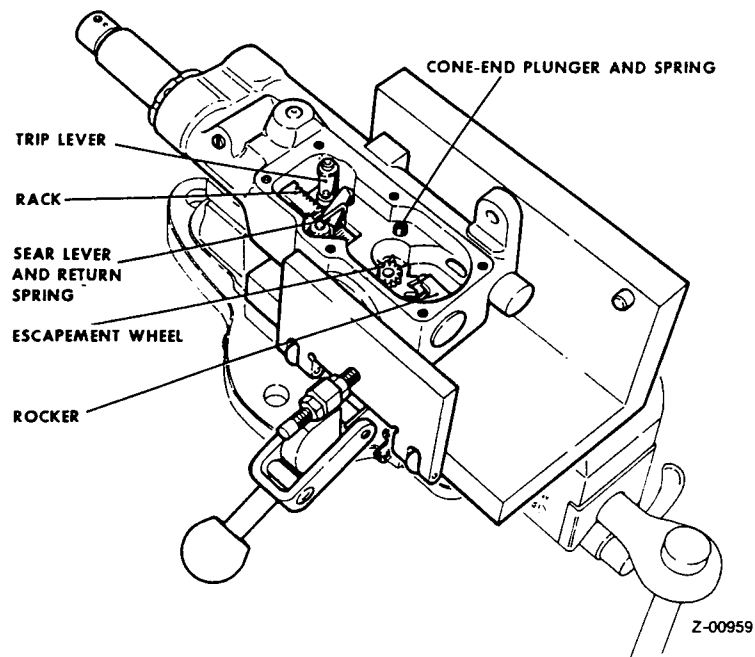
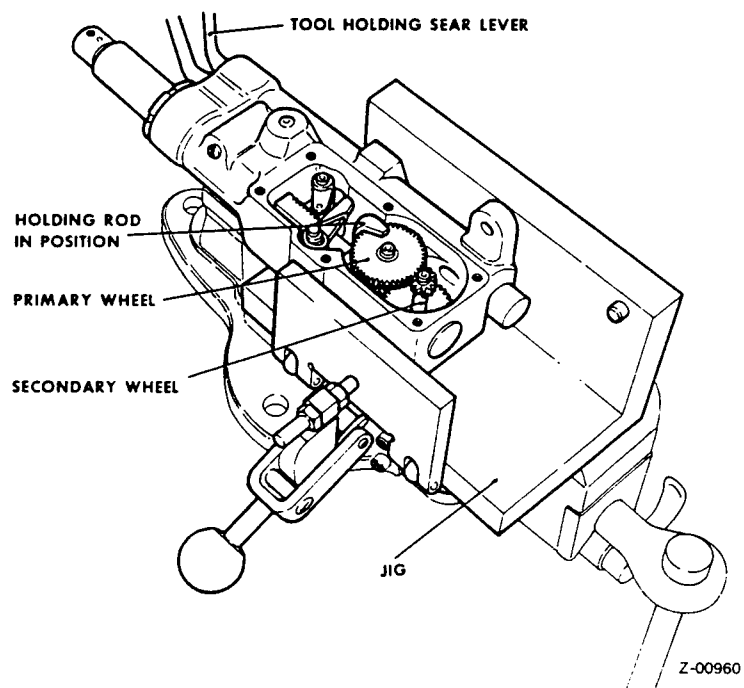

Fig 10 Assembling the unit (1)
Fig 11 Assembling the unit (2)
18.6 Replace shims (if fitted), over threads at lower end of rack and insert rack into plunger. On Type 5 Mk 1 units ensure that the teeth on the rack align with the cutaway in the plunger. Pass end cap over rack plunger, assemble spring washer, remaining shim(s) and special nut to rack. Tighten special nut hand tight only, back off until holes align and fit new split pin. Fit spring over rack and insert complete assembly into case ensuring rack passes through sear lever assembly and rack teeth face inwards towards the harness release plunger housing (fig 10). Tighten end cap using the spanner and wirelock cap to case.
18.7 Partially depress rack plunger and assembly trip lever with trip arm positioned beneath and engaging cut-away of rack, and roller arm uppermost, (fig 10).
18.9 Assemble cone-end plunger and spring into case (fig 10).
18.10 Ensure escapement wheel is free on shaft of primary pinion. Position escapement wheel and rocker in case, rocker boss facing downwards and escapement wheel pinion uppermost (fig 10). Fit secondary pinion and wheel; spindle at larger gear end passes through escapement rocker into bearing and wheel engages pinion of escapement wheel (fig 11). Fit primary pinion and wheel; spindle at small end passes through escapement wheel into bearing, cone-end plunger engages in indent of larger gear and wheel engages secondary pinion (fig 11).
18.11 Locate primary pinion in correct position with all teeth in mesh and hold by pushing downwards on primary pinion; then raise vertical plunger of assembly jig to its full extent and turn plunger 90 degrees to engage its lip over top face of primary pinion (fig 11). Locate sear lever in correct position by rotating sear lever against spring; compress handles of the sear lever positioning tool and insert tool into harness release plunger aperture locating end of tool beneath roller of sear lever so that when handles of tool are released, sear lever is held in correct position (fig 11). Refit cover plate ensuring that all spindles are correctly located in their respective bushes; secure cover plate with bolts and washers. Torque load bolts to 25 lbf in. Remove the tool and retract plunger of assembly jig. Push in rack plunger several times to check smooth running of gear train. Wirelock cover bolts in pairs wiring across lower two bolts and vertically on other bolts.